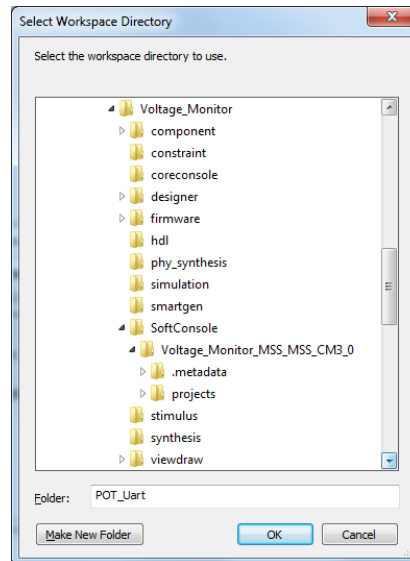

Figure 21 · Specifying the Workspace
1. Invoke the SoftConsole project generated by Libero SoC v10.0 using **File > Switch Workspace > Other...** and browse to the SoftConsole workspace as shown in Figure 21 .